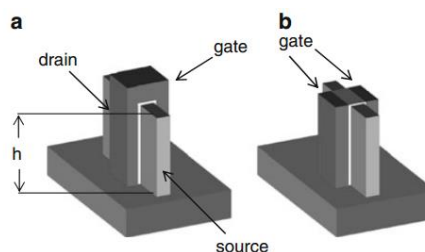

Fig 1. (a) SG-mode FinFET; (b) IG-mode FinFET
Fin-type field-effect transistors (FinFETs) are promising substitutes for bulk CMOS at the nanoscale. FinFETs are double-gate devices. The two gates of a FinFET can either be shorted for higher performance or independently controlled for lower leakage or reduced transistor count. This gives rise to a rich design space. This lab provides an introduction to various interesting FinFET logic design styles, and novel circuit designs. Figure 1 shows the shorted-gate (SG) FinFETs where the two gates are connected together, leading to a three-terminal device, and the independent-gate (IG) FinFETs, the top part of which is etched out, giving way to two independent gates. Because the two independent gates can be controlled separately, IG-mode FinFETs offer more design options.